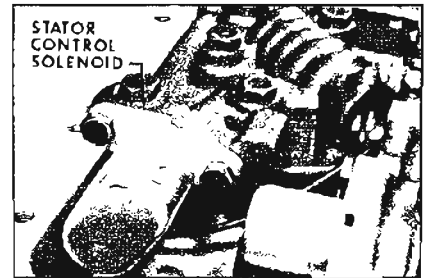

Figure 5-112
3. With a grease pencil mark stator control solenoid with an "S". This "S" will identify stator control solenoid for re-assembly. See Figure 5-112.